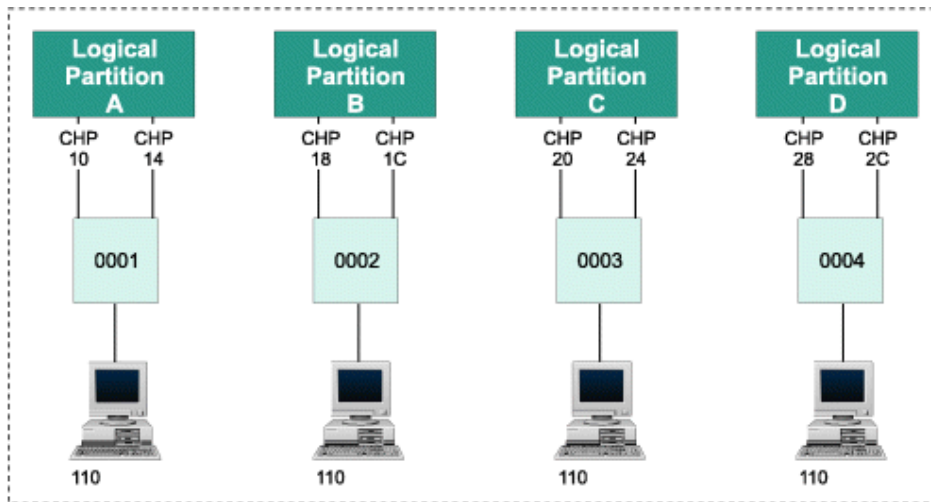

Figure 18. Duplicate device numbers for console
If 8 or less channels attach to the device, this method of defining the IOCP input provides greater flexibility because it allows you to move CHPIDs from one LP to another and eliminates possible conflicts (see Figure 18 on page 52).
Figure 18 on page 52 shows another example of a logical partition configuration in which the device number for a console (110) is duplicated for all four logical partitions.